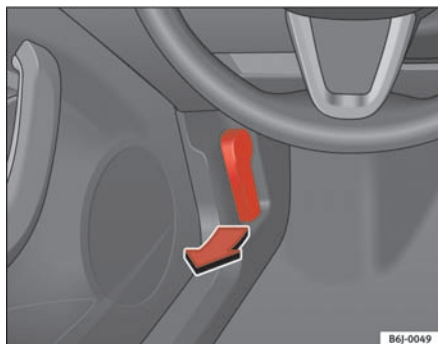

Fig. 109 Bonnet opening lever
- To release the bonnet, pull the lever under the dashboard ⇒ **fig. 109** in the direction indicated (arrow). The bonnet will be released by a spring action ⇒ .